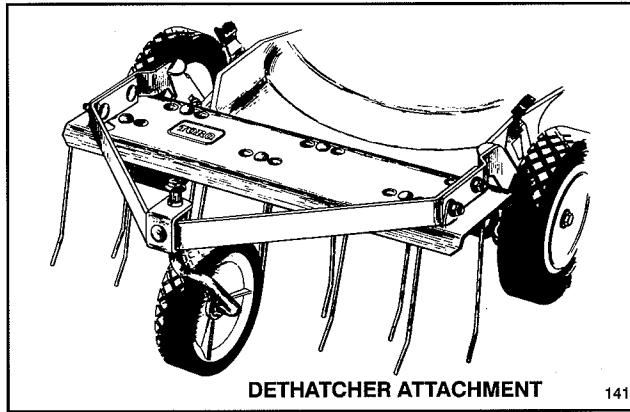

Figure 30
- 3. Dethatcher Kit, Model 59131 (self-propelled model only)**—Installs in minutes. Front mounted for easy maneuverability. Spring tines loosen thatch for easy cutting (Fig. 30).